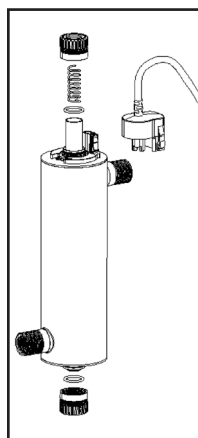

FIGURE 3A
-  c) Remove gland nuts from both ends of the reactor chamber (Figure 3A), checking for the free floating spring inside sleeve at the opposite end to the lamp connection (do not allow quartz sleeve to fall).
-  d) Carefully remove o-rings from the quartz sleeve (Figure 3A). As the o-ring may tend to adhere to the quartz sleeve, it is recommended to replace the o-rings annually. Remove quartz sleeve carefully from chamber.